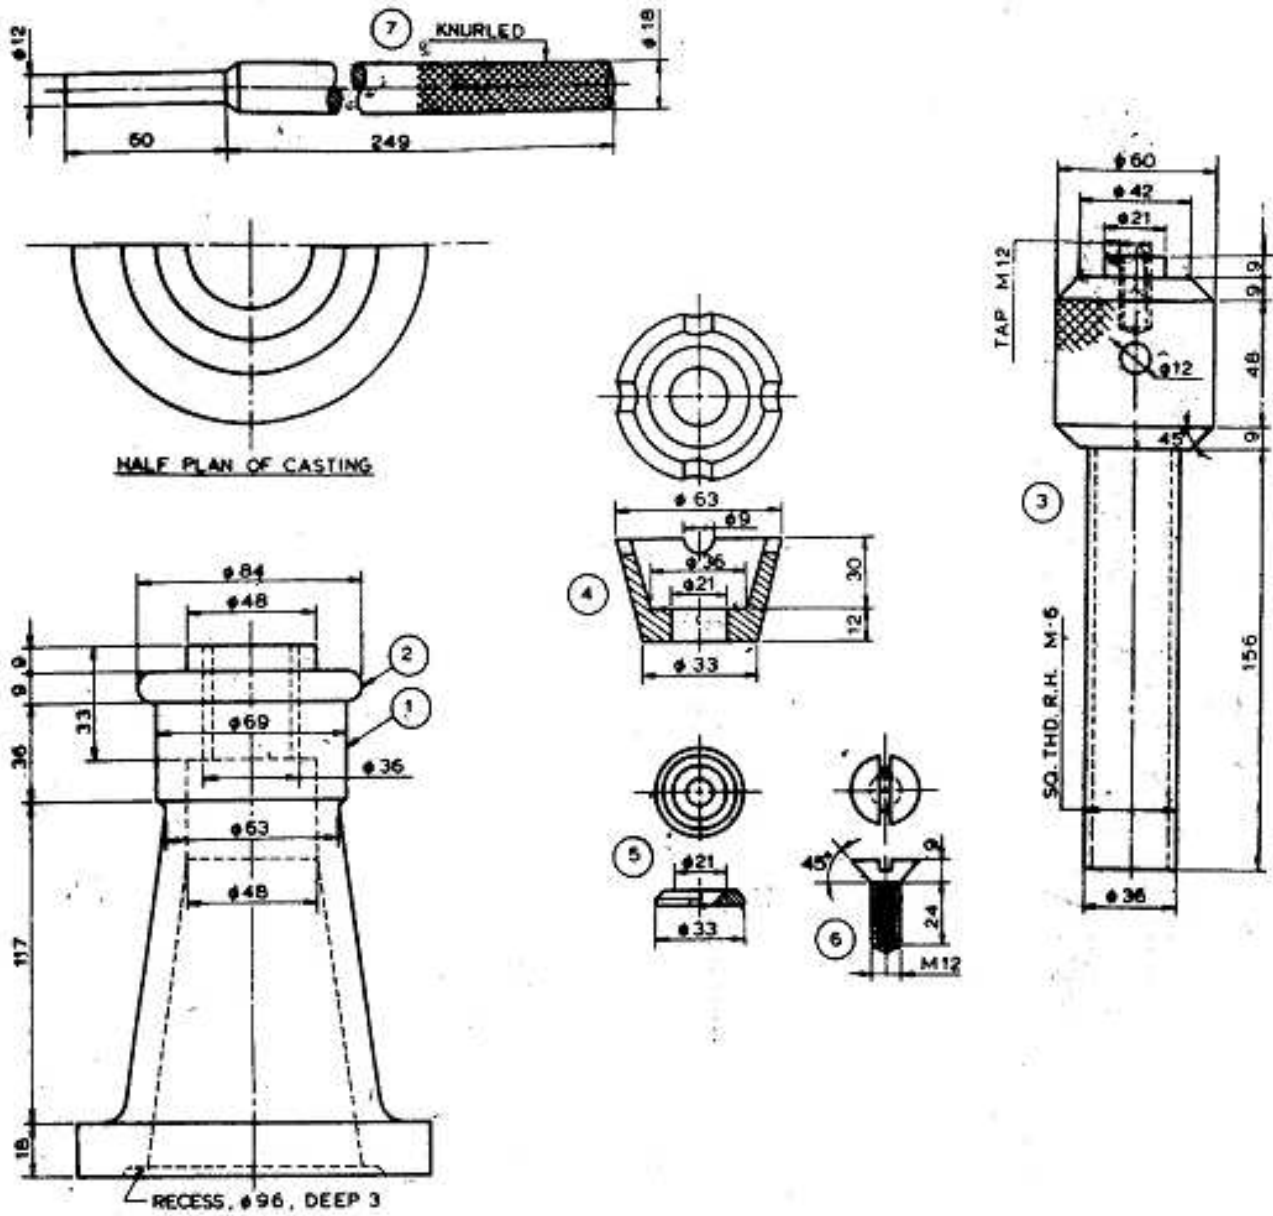

Figure 1:
2. Details of a Screw Jack are given in the figure 1.